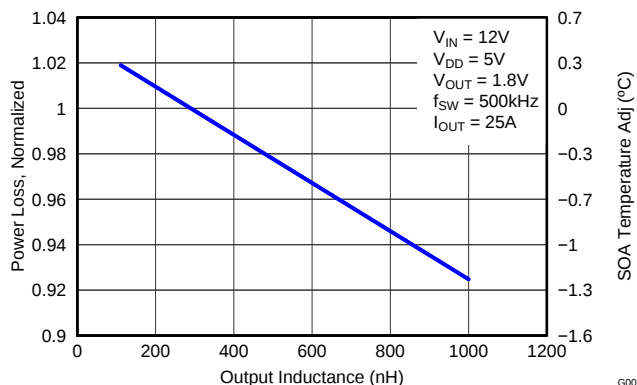

Figure 10. Normalized Power Loss vs Output Inductance
- Normalized Power Loss for output inductor  $\approx 1.01$  (Figure 10)
- SOA adjustment for output inductor  $\approx 0.2^{\circ}C$  (Figure 10)